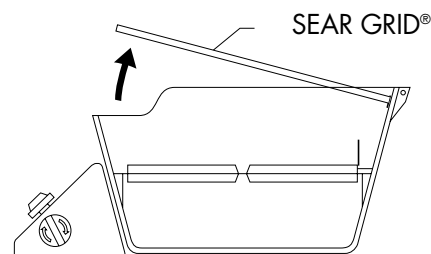

FIG. 26
1. Remove SEAR GRID®, briquettes and the LA-VA-GRATE®. (See Fig. 26 and 27)